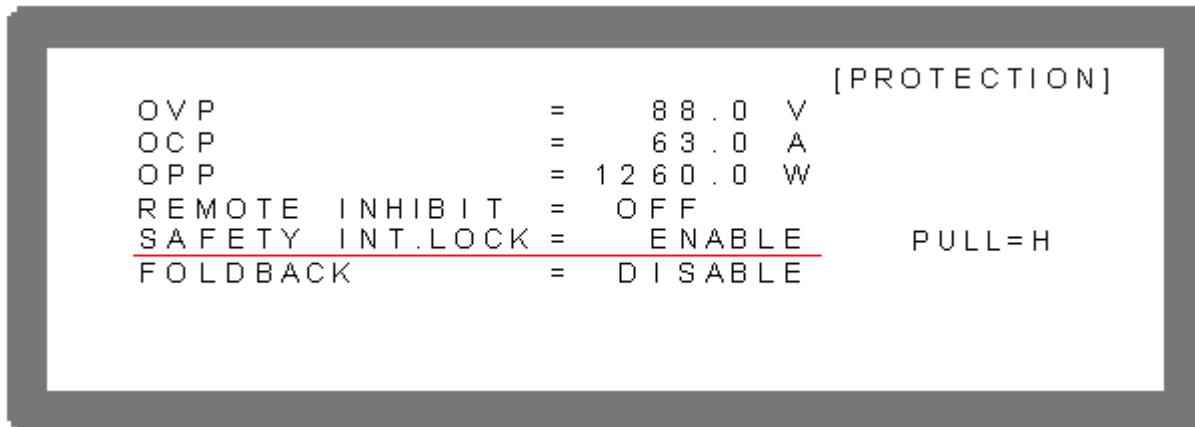

Figure 3-81
1. Use "**←↑**" & "**→↓**" keys to move the cursor to the column to be set as Figure 3-81 shows.